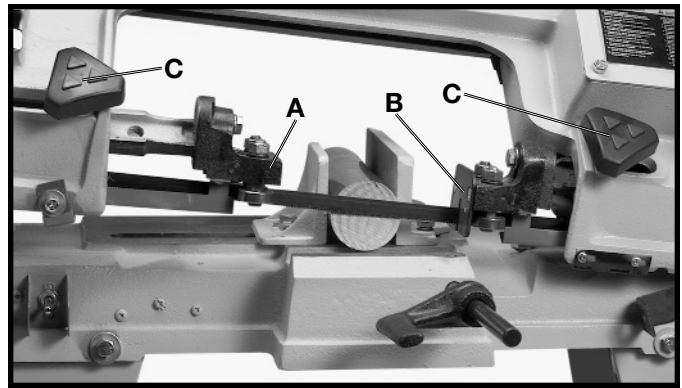

Fig. 22
The left and right blade guide brackets (A) and (B) Fig. 22, are adjustable by loosening the two lock knobs (C) and sliding the brackets to accommodate the width of the work piece. The guide brackets (A) and (B) should be set as close as possible to the workpiece, without interfering or touching the workpiece, or contacting the table. Once the adjustment is made, tighten the lock knobs (C).